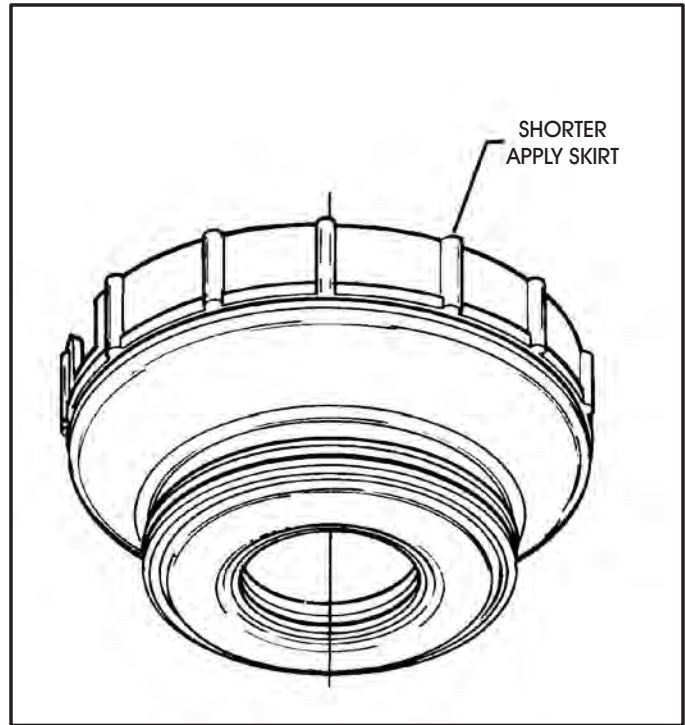

Figure 46
- (5) LOW/REVERSE CLUTCH PISTON - Now has shorter apply skirt to accommodate the addition of the "Selective" and "Wave" plates, as shown in Figure 46.